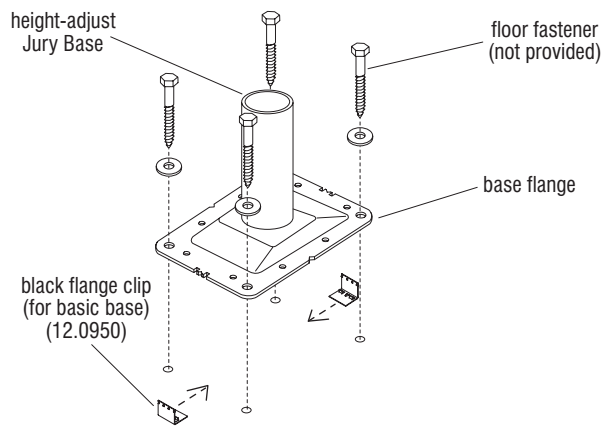

Figure 1
3. Mount base flanges to floor with appropriate fasteners, referencing "Floor Anchor Specifications" details on page 2 (Figure 1). Center the black flange clips (12.0950) under both 6" sides of base flange, with the barbs up. Insert the locating tabs of the flange so that they are tight into the base flange notches. After all bases are positioned and adjusted with shims, securely tighten base flanges to the floor (Figure 1). Do not install plastic flange covers until step 4.